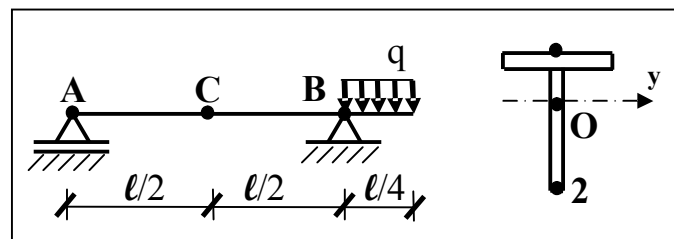

Fig. 3
04) The verification of the beam represented in Fig. 3 must be performed in ...